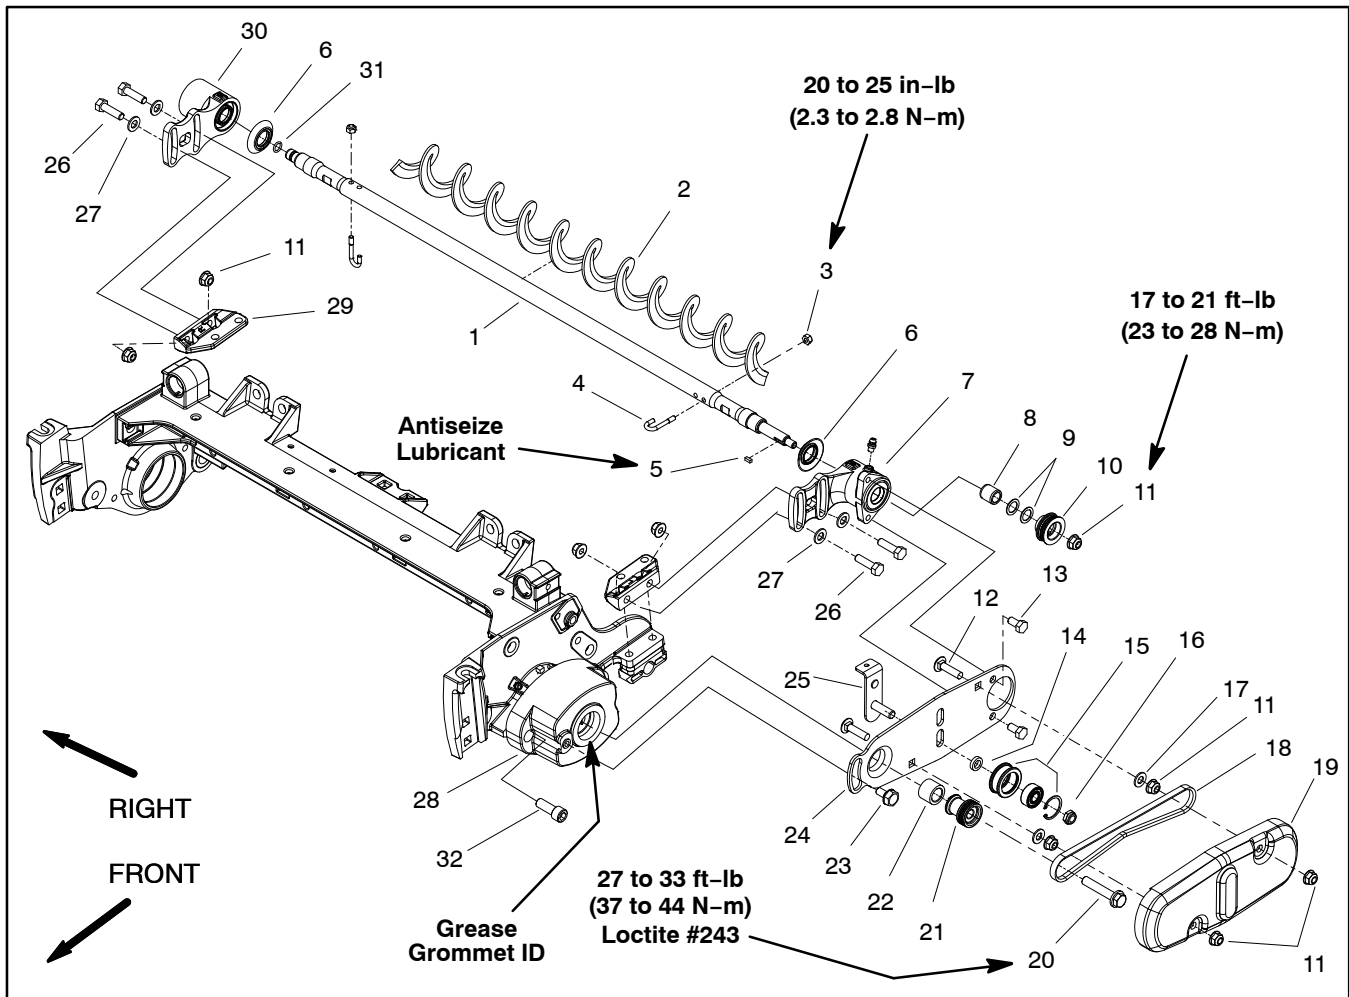
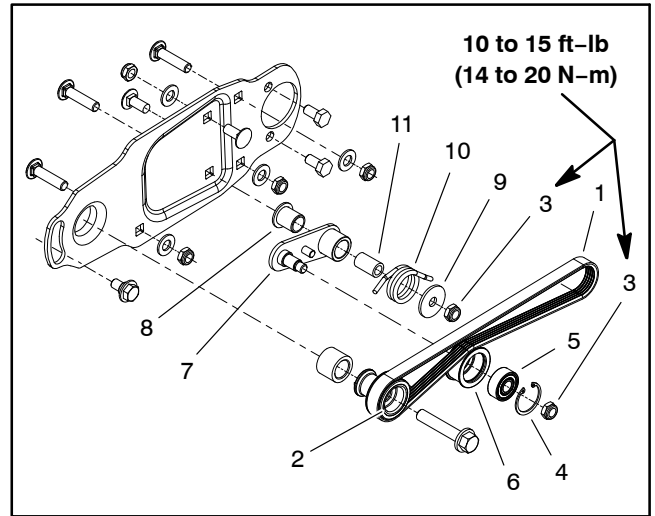
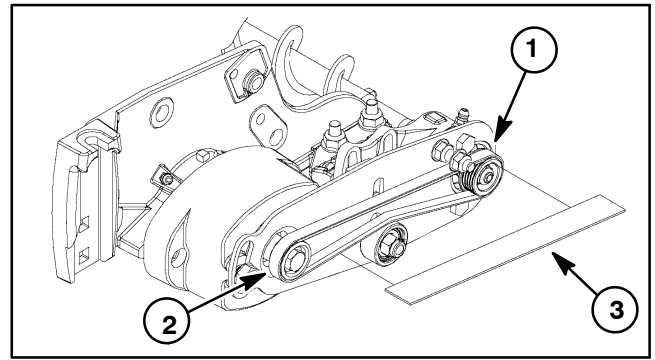
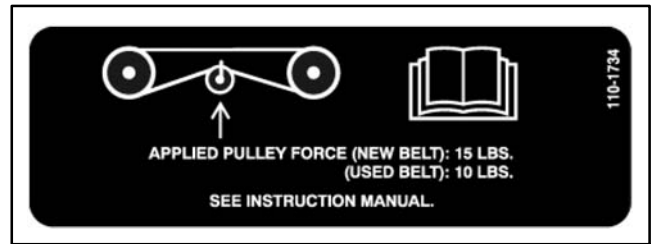

Figure 53
Figure 54
Figure 59
Figure 60
**NOTE:** Drive components for the rear roller brush are located on the opposite side of the cutting unit from the cutting reel hydraulic motor. Figure 53 shows components used when the brush drive is on the left side of the cutting unit.
**NOTE:** Rear roller brush kits prior to 2008 include an adjustable drive belt idler system as shown in Fig. 53. These kits also use a driven pulley that is located on the brush shaft with a square key. Starting in 2008, brush kits have a sprint-loaded drive belt idler system as shown in Fig. 54. These kits also use a splined driven pulley so no key is necessary.
### Disassembly (Fig. 53)
A. Remove the non-drive brush bearing housing (item 30) from cutting unit.
3. Disassemble roller brush components as necessary using Figures 53 and 54 as guides.
### Assembly (Fig. 53)
4. Assemble roller brush components using Figures 53 and 54 as guides along with the following:
B. When installing drive pulley (item 21), make sure that tabs on pulley engage slot in drive shaft.
D. During assembly, apply Loctite #243 (or equivalent) to threads of fasteners and torque fasteners as shown in Figures 53 and 54.
E. Check alignment of pulleys with a straight edge placed along the outer face of the driven pulley (Fig. 59 or 61). The outer faces of the driven and drive pulleys (not the idler pulley) should be in line within 0.030" (0.76 mm). If necessary to align pulleys, remove driven pulley from brush shaft and add or remove washer(s) (item 9 in Fig. 53) until drive and driven pulleys are aligned.
H. If roller brush drive includes an adjustable idler pulley (shown in Figure 54), make sure that idler arm (item 7 in Fig. 54) is free to rotate after assembly to brush plate. Also, make sure that idler spring is installed so that it can rotate the idler arm and pulley and apply tension to the drive belt.
5. To tension a roller brush drive system that includes an adjustable idler pulley (shown in Figure 53), make sure idler pulley lock nut is loose. Lift up on idler plate tab with 15 lbs of force for a new belt (10 lbs of force for a used belt) and tighten pulley lock nut. Refer to decal on brush plate (Fig. 60).